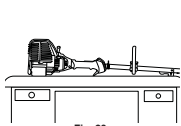

Fig. 20
2. Place the engine on a flat, level surface with the cutting head shield hanging off a work bench or table to get a proper oil level reading (Fig. 20).